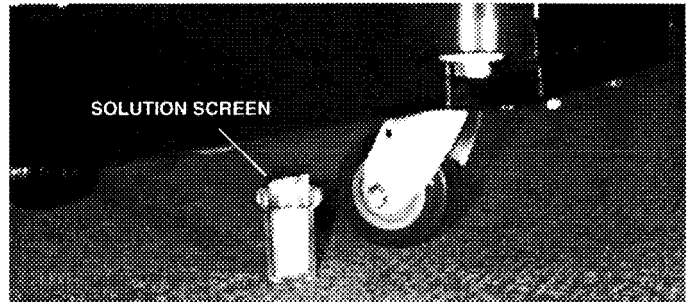

Fig. 19
1. Clean solution screen located underneath extractor at front. (Figure 19)